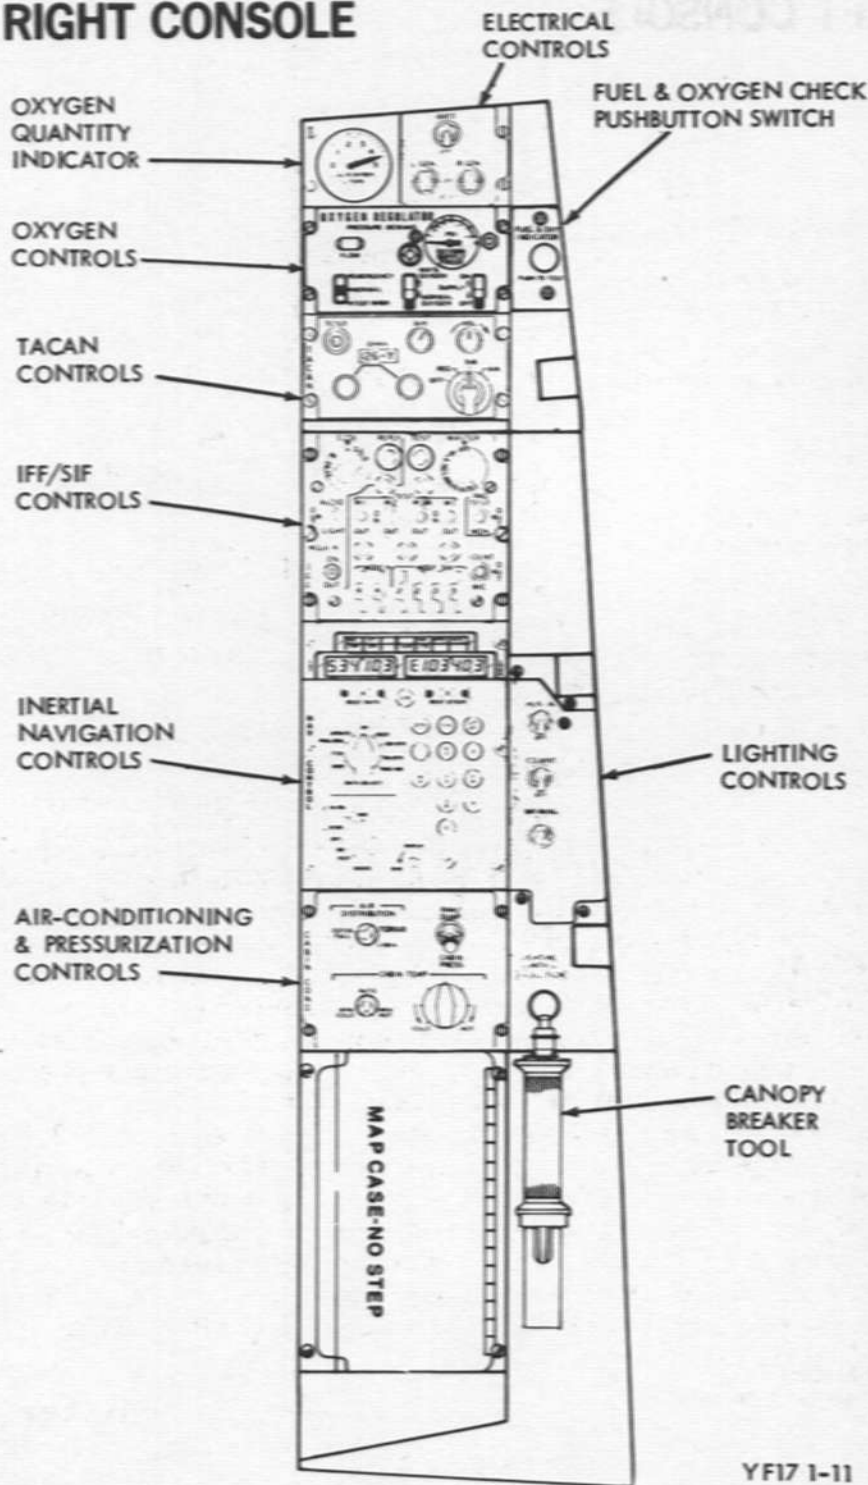
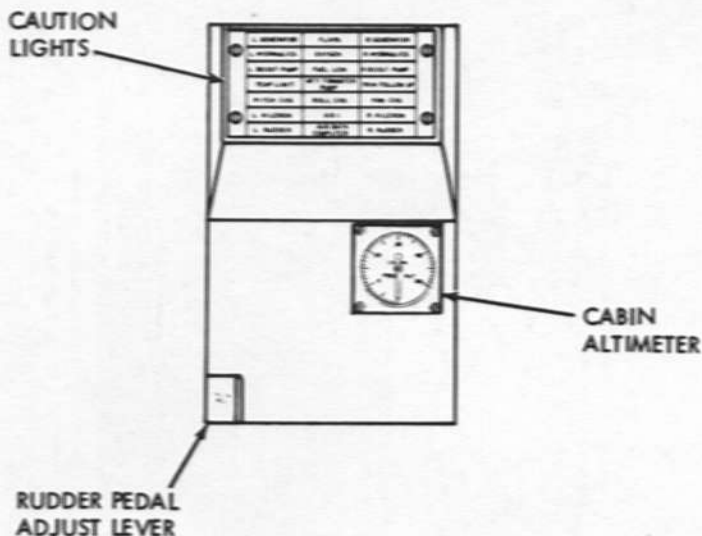
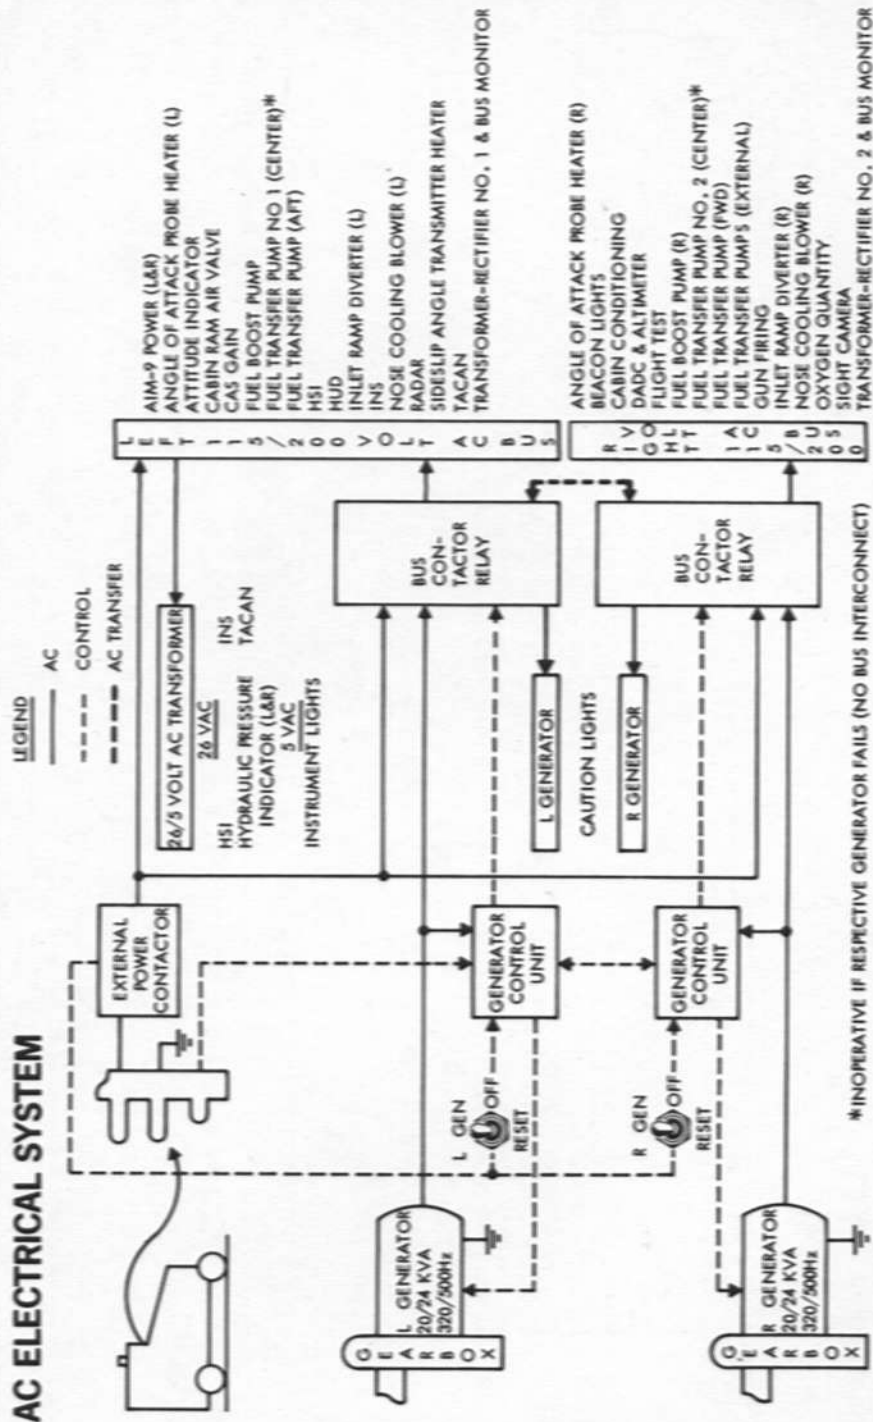
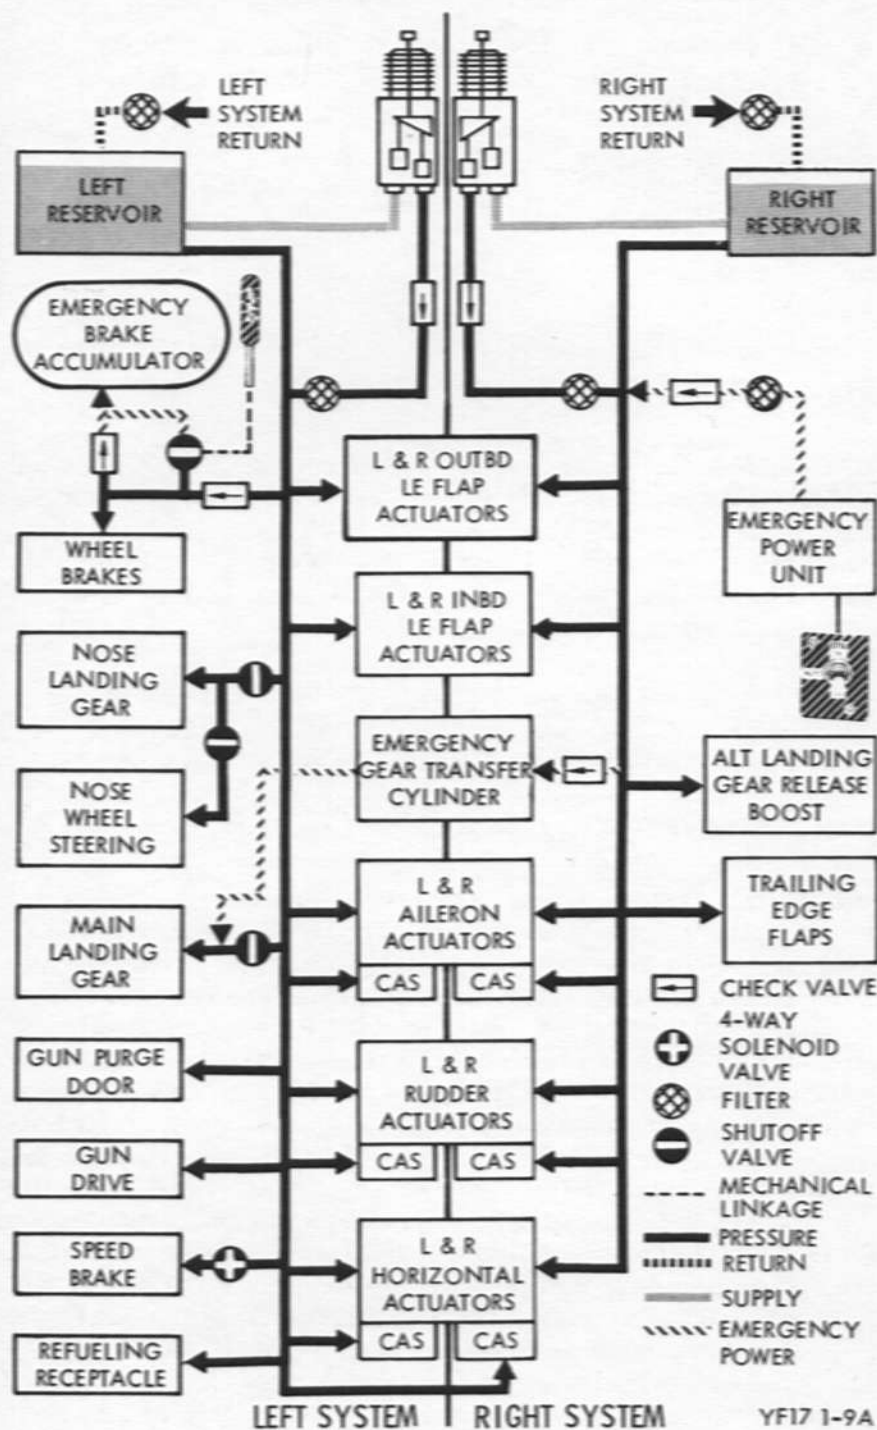

Figure 1-5.
Figure 1-6.
Figure 1-10.
Figure 1-12.
If the forward transfer pump fails (no caution light), automatic gravity feed to the right main tank will not occur as the fuel level in main tanks decreases due to the gravity flow flapper valve being plugged for initial flight test purposes. However, provision for plug removal during subsequent flight tests will allow gravity flow in the event of transfer pump failure. If the aft transfer pump fails, a caution light on the pedestal (figure 1-6) will illuminate. Gravity feed to the left main tank is delayed until the fuel level in main tanks drops below the interconnect transfer tube. To assist gravity transfer of aft tank fuel, select crossfeed from the left main tank and reduce power to obtain a total fuel flow rate of 6000 pph or less.
A vent inlet-outlet in each vertical tail provides for venting tank pressure during refueling and flight. Total internal usable fuel is displayed in the digital counter on the instrument panel. A fuel quantity selector switch for the left/right main tanks and forward/aft transfer tanks, and a vertical dual-tape quantity indicator are on the instrument panel (figure 1-3). A caution light for a fuel low-level of 375 lb in either main tank and caution lights for either boost pump inoperative are on the pedestal (figure 1-6). A fuel and oxygen push-to-test button on the right console (figure 1-5) provides fuel quantity indicator and fuel remaining counter function check by driving the indicators toward zero. The dual tapes should stop at 1000 lb; counter at 2000 lb. When released, the indications return to onboard quantities. If electrical power is removed from the system, the tapes and counter will display an OFF flag.
Two 20/24 KVA, 115/200 VAC, 3-phase, 320-500 Hz oil-cooled generators, driven by the accessory gear drivebox of each engine, supply ac power to respective left and right systems. One generator is capable of automatically assuming both ac system power loads if the other generator fails or is turned OFF. External ac power for ground operation is supplied thru an external receptacle. DC power is supplied by two 50-amp, 26-32 VDC transformer-rectifiers (TR) and a 24-VDC, 6 amp-hr rechargeable battery. Each respective TR converts ac power to dc power; if one TR fails, the other will continue to supply all essential dc power requirements. Battery and generator switches are located on the right console (figure 1-5). Each generator switch has a RESET position to allow restoration of generator power if tripped "off-line". Generators cut-in individually when each engine reaches approximately 65% N2 rpm and remain "on-line" at engine idle power. Generator caution lights on the pedestal (figure 1-6) will illuminate if the generators are not operating. See figures 1-10 and 1-11 for system power distribution.
Exterior lighting consists of only the rotating beacon light installed in each vertical tail. Interior lighting consists of only two cockpit floodlights mounted aft in the cockpit, and the engine group and hydraulic system indicators. The beacon light switch and cockpit lighting switch are located on the right console (figure 1-5).
Warning, caution, and indicator lights provide indication of failures, hazardous conditions, or systems status. A warning test switch on the right console (figure 1-5) when positioned at TEST will lamp check all the following lights.
The environmental control system (ECS) provides cockpit air-conditioning and pressurization, avionic equipment compartment cooling, canopy and windshield defogging, canopy seal pressurization, gun breech and gun compartment purging, anti-G suit pressurization, and emergency air ventilation of the cockpit. Fourth stage engine compressor bleed air from each engine is used to supply all conditioning air requirements; however, one engine is capable of operating the complete system. An external bleed air connection permits prolonged ground cooling operation of avionics equipment without the engines operating. Controls on the right console (figure 1-5) are provided for operation of cockpit pressurization, temperature, and defog air distribution. A torso outlet on each side of the cockpit (figure 1-2) provides directional flow of conditioned air and can be adjusted from shutoff to full flow by twisting the knurled outlet fitting. Cockpit pressure altitude is indicated by the cabin altimeter on the pedestal (figure 1-6). The cockpit is unpressurized up to 8000 feet. Cockpit pressure will hold equal to 8000 feet at altitudes up to 23,500 feet. Above 23,500 feet the system will maintain a 5 psig differential. A pressure safety valve in the system automatically protects the cockpit from high and low pressures.
Hydraulic power is supplied by two independent left and right systems (see figure 1-12 for power distribution). Constant-pressure variable-delivery piston pumps, driven by the respective left and right engine accessory gearbox drive assembly, provide each system with 3000 psi operating pressure. A pressurized reservoir supplies hydraulic fluid to each pump (2.5-gal. Left) (1.25-gal. Right). Both systems normally operate at all times while both engines are in operation. Hydraulic pressure monitoring is accomplished thru the pressure gages on the instrument panel (figure 1-3) and the caution lights on the pedestal (figure 1-6). Caution lights will come on when the respective system pressure drops to 1500 psi or less and will go out when system pressure of approximately 1800 psi is restored. Loss of either engine, either pump, or either fluid system will not cause loss of the powered flight controls; although a reduction of flight control effectiveness will occur.